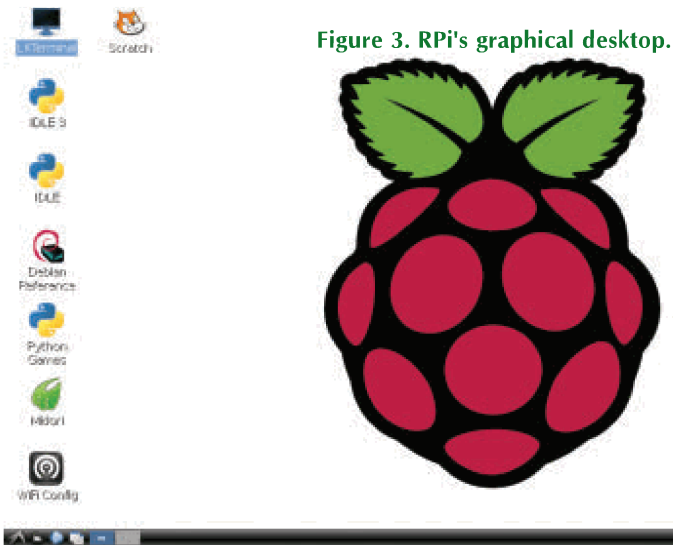

Figure 3. RPi's graphical desktop.
2. Log in directly using an attached USB keyboard, mouse, and monitor, and start the graphical desktop by typing **startx**. The RPi's graphical user interface is similar to Windows. Take a look at **Figure 3**.